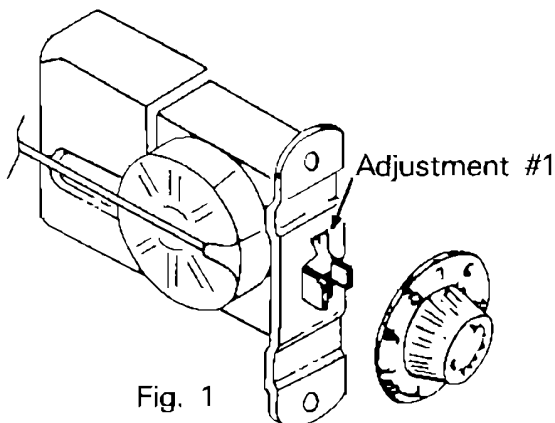

Fig. 1
(Outside Range). See Fig. 1.
(Fig. 1)	7, 5, 3, 1, 2, 4, 6, 8 or
On the inside of the Control Panel, the select buttons and switches are numbered to assist in identifying them. If not numbered, then Push Button arrangement is as shown in (1) one of the foregoing diagrams, i.e., Fig. 1, 2, 3 or 4.
Figure 1 represents a control panel on which the select buttons are arranged in a vertical pattern of two rows and the power feed begins with the highest odd numbered switch to the lowest odd numbered switch, then to the lowest even numbered switch to the highest even numbered switch.
Although all circuit problems are not necessarily found to be one or more inoperative select switches, the examples listed below are typical of select switch problems found in the control panel. Refer to Fig. 1, page 41.